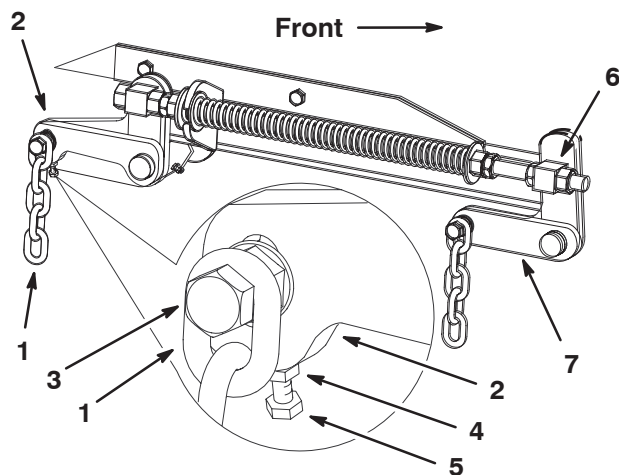

Figure 52
7. If the measurements at positions **B** or **C** are incorrect, loosen the bolt that attaches the rear chain to the rear support arm (Fig. 52).